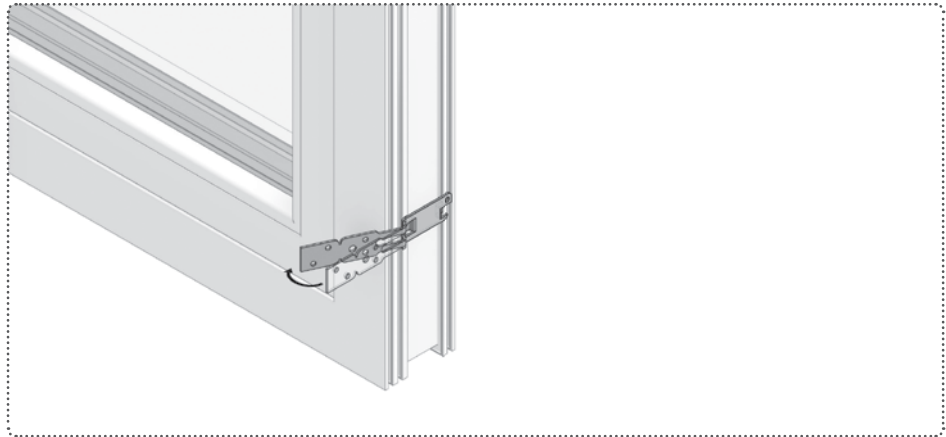
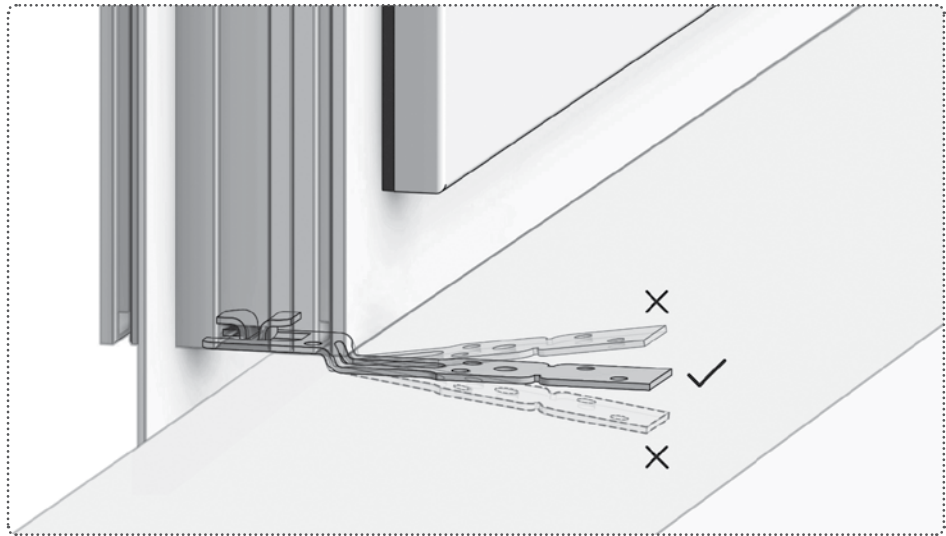

Figure 21. Bending strap anchors towards frame centre.
Figure 29. Bending strap anchors to fit opening.
1. Bending the anchor to suit the clearance between the frame and the rough opening is a two-step process: first, pre-bend the anchor towards the window, as shown in [Figure 21 on page 25] , second, bend it back against the side of the rough opening [Figure 29 on page 31] .